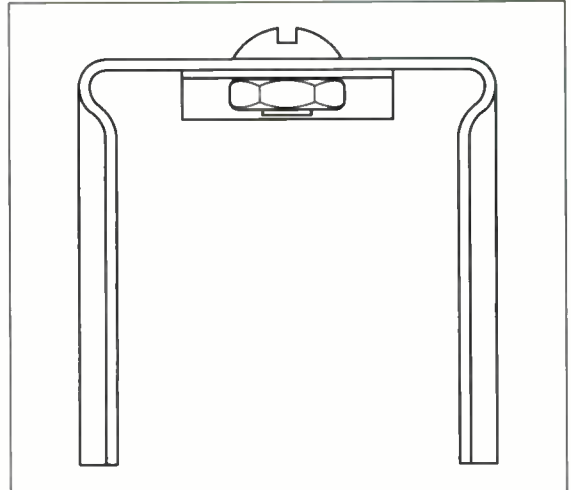

Fig 7.5. Fitting TR4 to the heatsink
2. Assemble TR4 and the heatsink. The flat surface of the transistor must be against the inside surface of the heatsink. Refer to Fig 7.5. Don't forget the dab of heatsink compound – if you do not have any, a little Vaseline is almost as effective but in any case don't use too much.